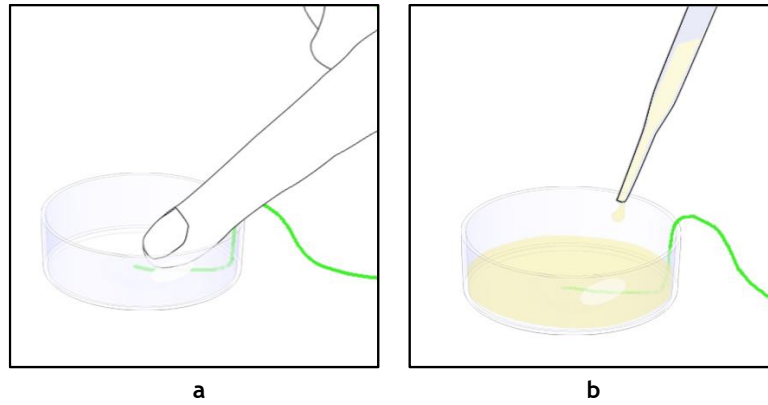

Figure 55. T Sensor attached on the bottom of the Petri dish (a -b).
- Secure with commercial adhesive tape the T Sensor to the bottom of the sample holder you use during standard operation (Petri dish, Chambered Glass Slide, etc.) as shown in Figure 55. Do not cover the tip of the T-Sensor with the adhesive tape.